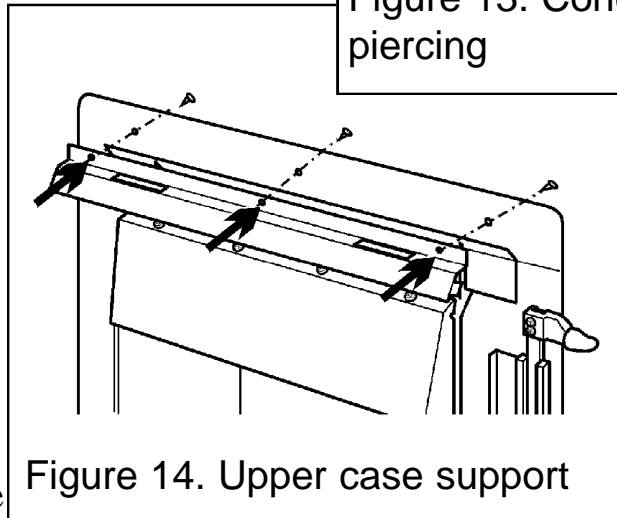

Figure 14. Upper case support
7. Fit the upper case support strip to the top of the convection box, using three screws inserted from the back of the appliance. See figure 14.